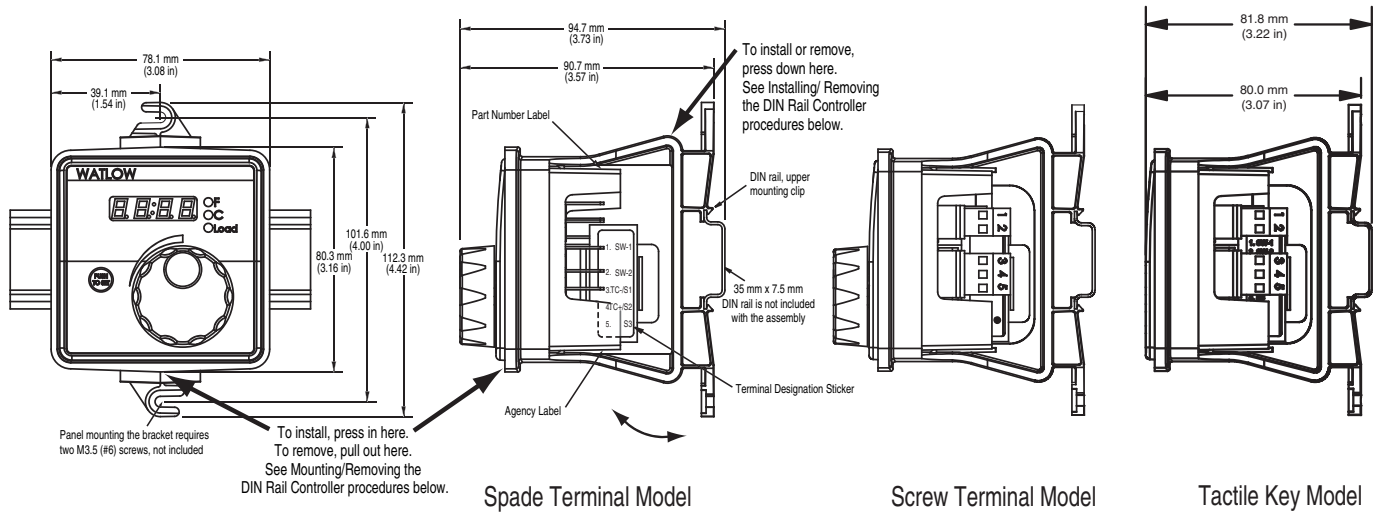

Figure 3a
2. Drill and tap two 2.7 mm (0.106 in) diameter holes in the desired panel location. See Figure 3a above for hole locations.
1. Place the DIN rail upper mounting clip on the top edge of the DIN rail. See Figure 3a. DIN rail spec, DIN 50022, 35 mm x 7.5 mm (1.38 in x 0.30 in).
2. Press down firmly on the top back edge of the DIN rail bracket and push in on the bottom, front edge of the bracket. The controller “snaps” securely onto the rail. See Figure 3a. If the controller does not snap on, check to see if the DIN rail is bent. Minimum clipping distance is 34.8 mm (1.37 in), the maximum is 35.3 mm (1.39 in).
3. While pressing down on the top, back edge of the DIN rail bracket, pull forward on the bottom, front edge of the DIN rail bracket. See Figure 3a.